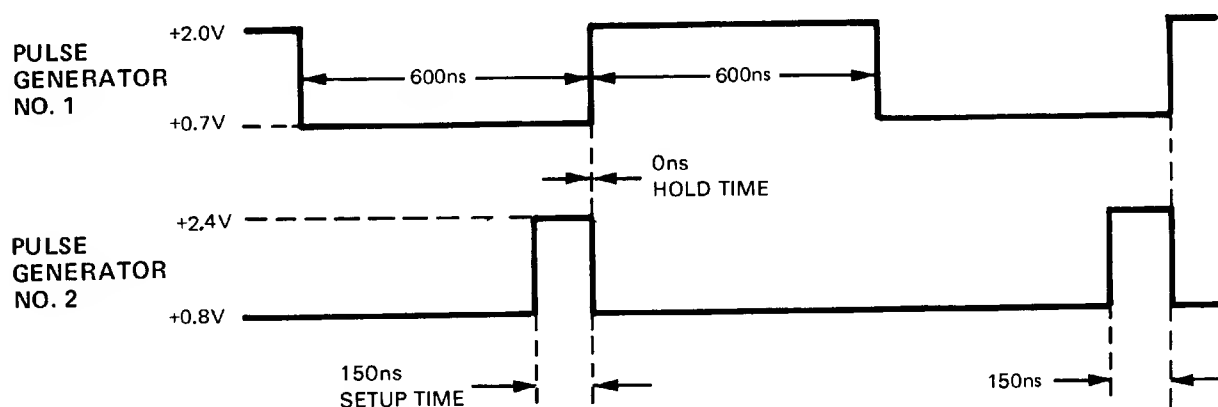

Figure 4-9. External Probe A12 Test Waveforms
- Adjust Pulse generators for waveforms shown in figure 4-9.